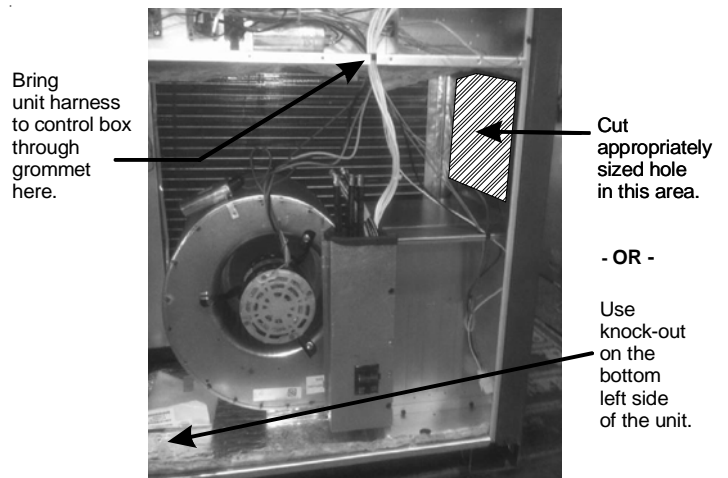

Figure 3
5. Bring line voltage into the blower compartment. Use the knock-out at the left/bottom side of the blower compartment, or cut a hole (sized correctly for the conduit being used) into the panel on the right side of the blower compartment, just above the electric heat compartment. See Figure 3.
9. Route the unit wiring (the wires connected to the breaker and the shorter green wire) into the control box through the grommet on the bottom. See Figure 3.